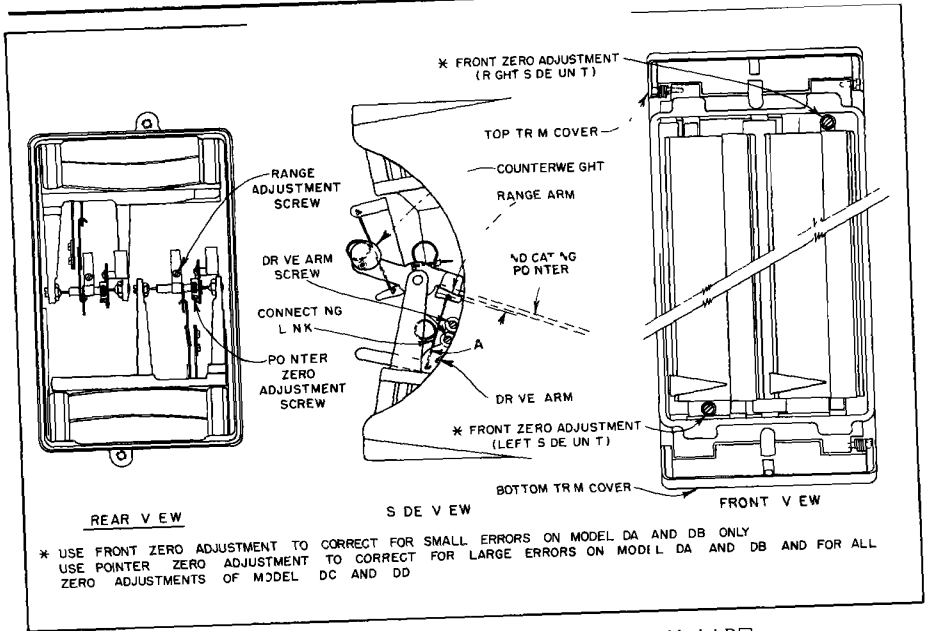

FIGURE 8 Adjustments for Diaphragm Mechanism Model DD
18 Using calibration setup as described under "Diaphragm Mechanism", apply midrange pressure to mechanism (connection A or C), and turn pointer zero adjustment screw (Figure 8) until indicating pointer is on midscale.
19 Turn front zero adjustment (Figure 8) counterclockwise until pointer just stops moving, indicating diaphragm has reached its mid position. (The pointer should move downward when front zero adjustment is turned counterclockwise. If not, turn front zero adjustment clockwise until pointer begins to move upward. Then turn counterclockwise until pointer just stops moving.)
20 With midrange pressure applied to unit, loosen two screws on drive arm (Figure 8) to obtain a right angle relationship between connecting link and range arm (Angle "A" equals 90°).
(c) Turn front zero adjustment (Figure 8) counterclockwise until pointer rests at bottom of scale holder. Then turn minimum stop screw (45) clockwise until pointer is just touching case. Lock screw with nut (44). Turn front zero adjustment
3 Refer to Figure 8. Connect suitable calibrating device (such as inclined manometer for very low draft, differential, or pressure ranges) or a mercury or vertical water monometer (for high ranges) to diaphragm mechanism
4 Apply minimum range draft or pressure to diaphragm mechanism. For differential pressure measurement, apply minimum differential to "A" or "C" connection (see table in Figure 1 or 2) leaving "B" or "D" connection open to atmosphere. If indicating pointer does not read minimum scale, turn front zero adjustment (for Model DA and DB instruments) or pointer zero adjustment screw (for Model DC and DD instruments). Refer to Figure 8. If step 4 must be repeated as a